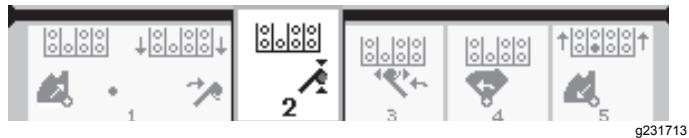

Figure 17
4. Release the rocker switch/button to proceed to the next step in the sequence (Figure 17).